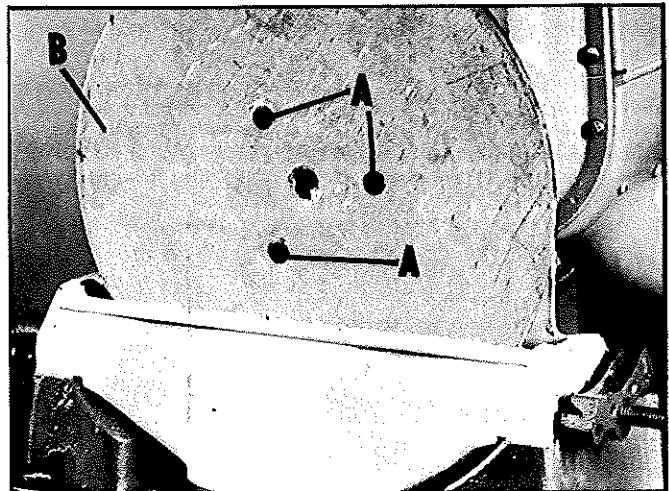

Fig. 27
4. Remove three socket screws (A) Fig. 27, and remove disc wheel (B).